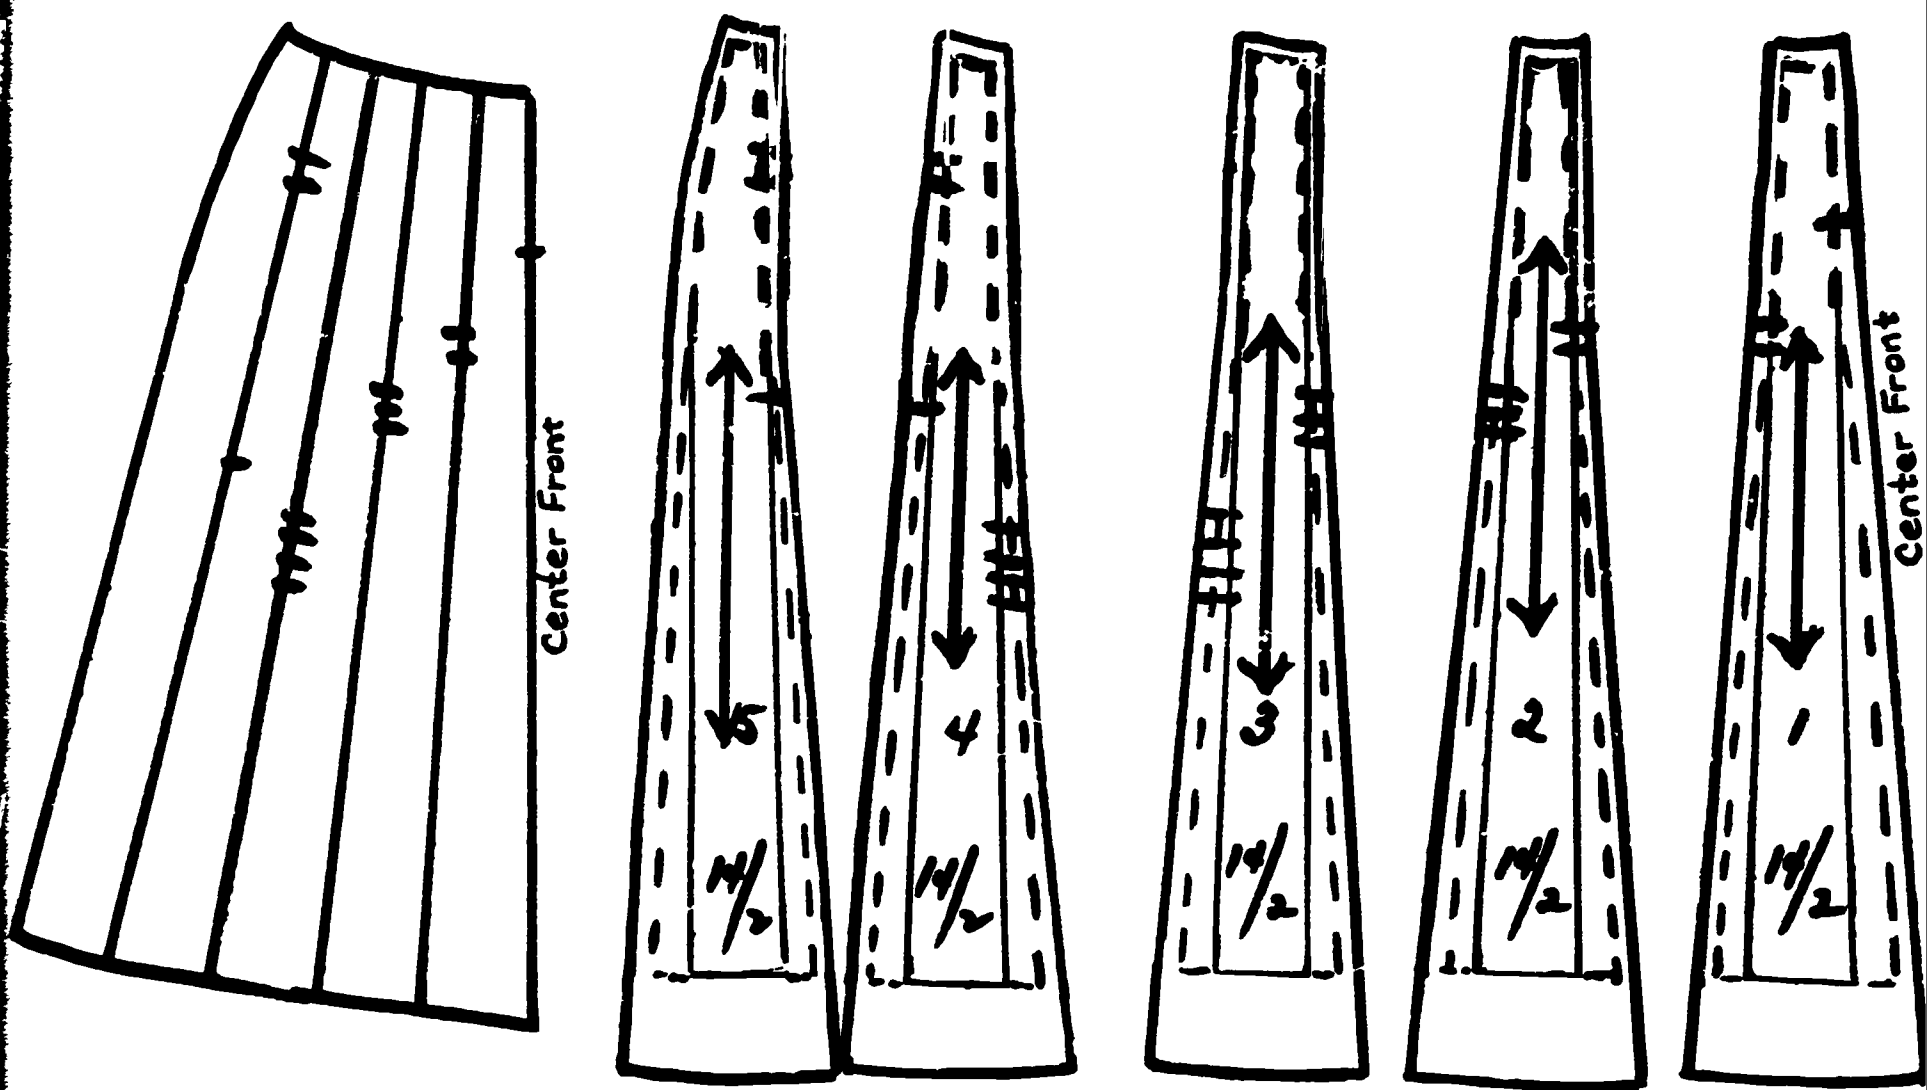

Fig. 232-B
2. Trace the one-gore pattern (Fig. 232-A) on pattern paper. Divide the waistline and hemline by five (this is for one-half of the pattern).